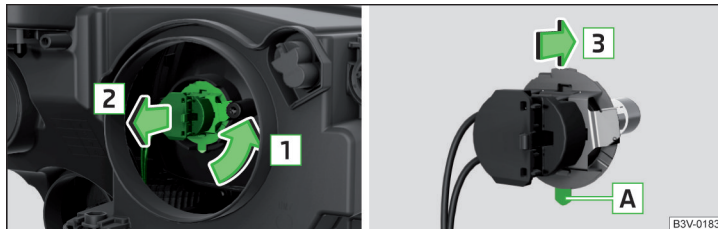

Fig. 272 Replacing the bulb for low beam and main beam
- » Turn the holder with the bulb in the direction of arrow **1** » Fig. 272.